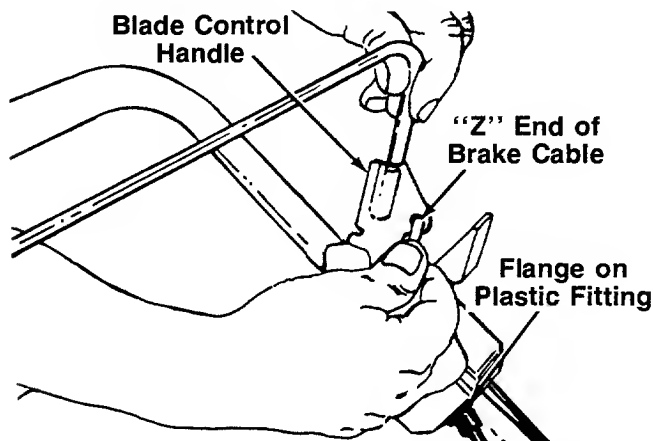

FIGURE 5.—Model 312 Shown
- ← 3. Hook the "Z" end of the brake cable into the hole in the blade control handle from the inside to the outside as shown in figure 5.